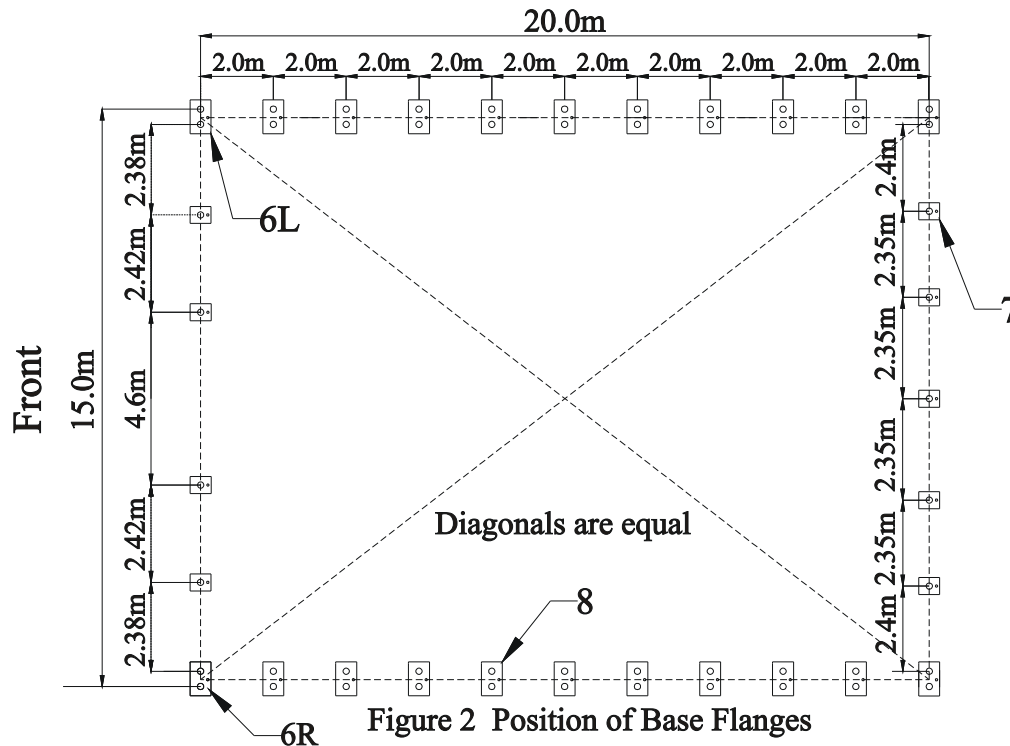

Figure 2 Position of Base Flanges
Begin by determining exact location of the four (4) corners of the building. Mark front edge and side-to-side width of assembly on ground. Drive alignment stakes into the ground outside of the markings, and draw alignment strings along both ends and sides of the building to the dimensions shown in Figure 2. The outline of the strings will represent the final location of the base flanges. The initial location of each Corner Base Flanges (6R & 6L) is critical to the alignment and fit of the frame components and cover.
Locate the Left Corner Base Flange (6L) and Right Corner Base Flange (6R). Secure the base flanges with Earth Augers (Part #24) and Stake Pegs (Part #25). Measurements shown in Figure 2 are to the center of the upright sockets on each Base Flange.